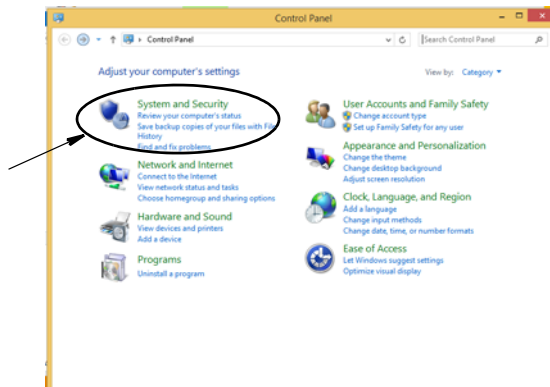

FIG. 217
2. Click on the System and Security link (FIG. 217).